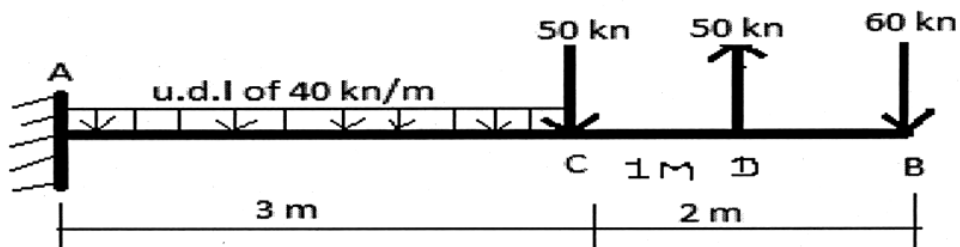

Fig. 2
Q.4 (a) Draw the shear force and bending moment diagrams for the beam shown in the Fig. 2. **10**